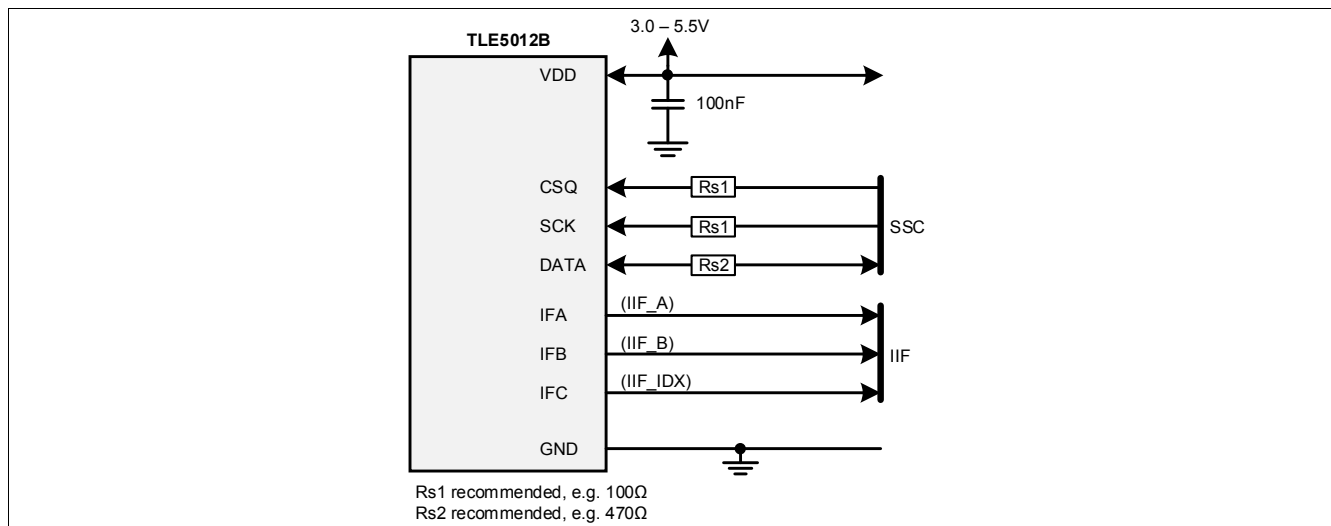
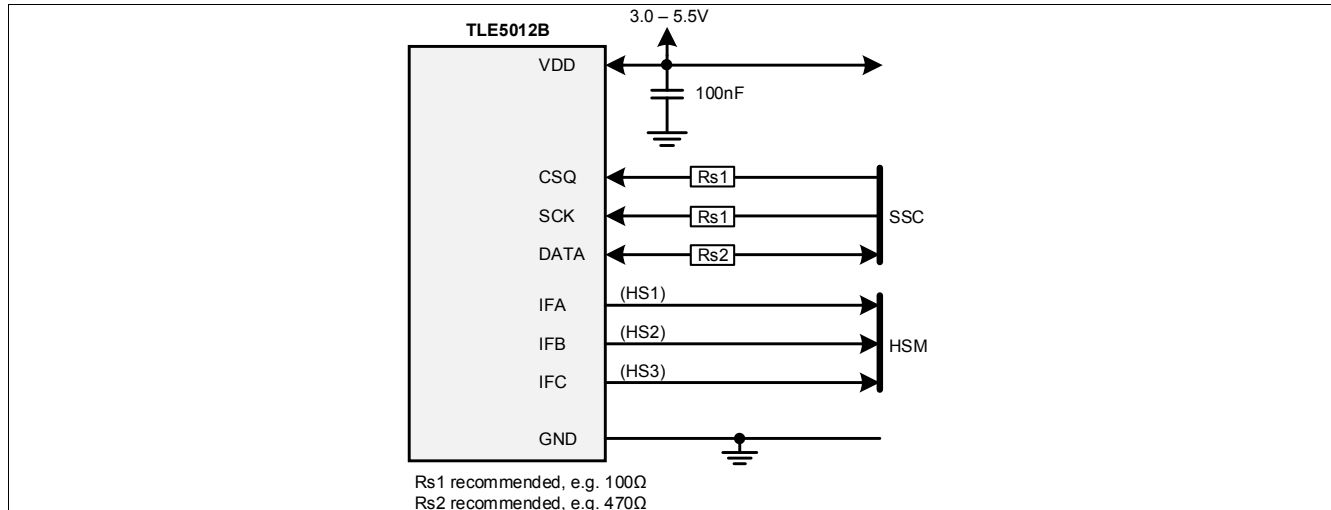
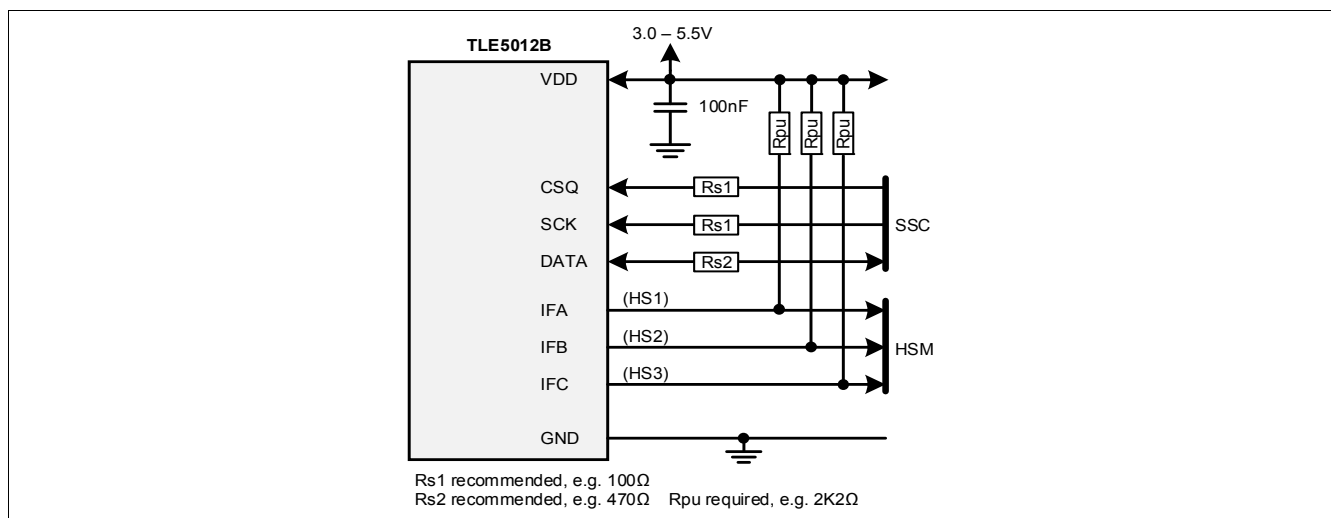
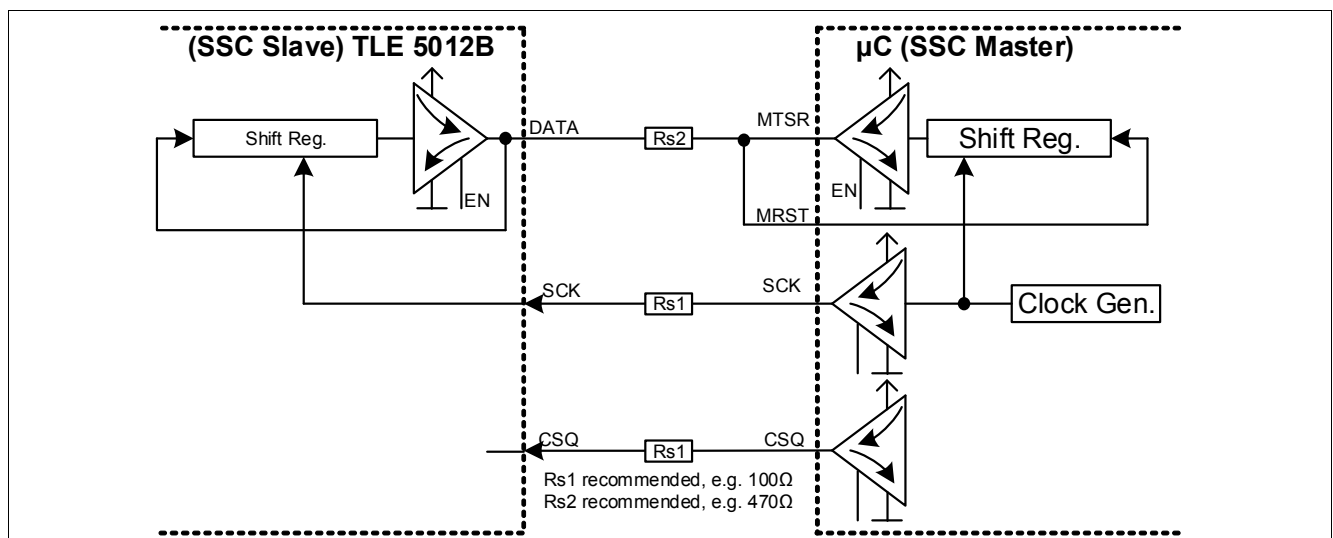

**Figure 5** Application circuit for TLE5012B with IIF interface and SSC
Figure 6 Application circuit for TLE5012B with HSM interface (push-pull configuration) and SSC
Figure 7 Application circuit for TLE5012B with HSM interface (open-drain configuration) and SSC
Figure 11 SSC interface with push-pull configuration (high-speed application)
**Figure 5** shows a block diagram of a TLE5012B with Incremental Interface (IIF) and SSC interface. The derivate TLE5012B - E1000 is by default configured with push-pull IFA (IIF\_A), IFB (IIF\_B) and IFC (IIF\_IDX) pins. When the output pins are configured as open-drain, three pull-up resistors should be added (e.g. 2K2Ω) between the data lines and VDD.
Figure 6 shows a block diagram of the TLE5012B with Hall Switch Mode (HSM) and SSC interface. The derivative TLE5012B - E3005 is by default configured with push-pull IFA (HS1), IFB (HS2) and IFC (HS3) pins.
As shown in Figure 7 when IFA, IFB and IFC are configured via the SSC interface as open drain pins, three pull-up resistors (Rpu) should be added on the output lines.
In Figure 5, Figure 6 and Figure 7 the SSC interface has the default push-pull configuration (see details in Figure 11). A series resistor on the DATA line is recommended to limit the current in erroneous cases (e.g. the sensor pushes high and the microcontroller pulls low at the same time or vice versa). Resistors on SCK and CSQ lines are recommended in case of disturbances or noise.